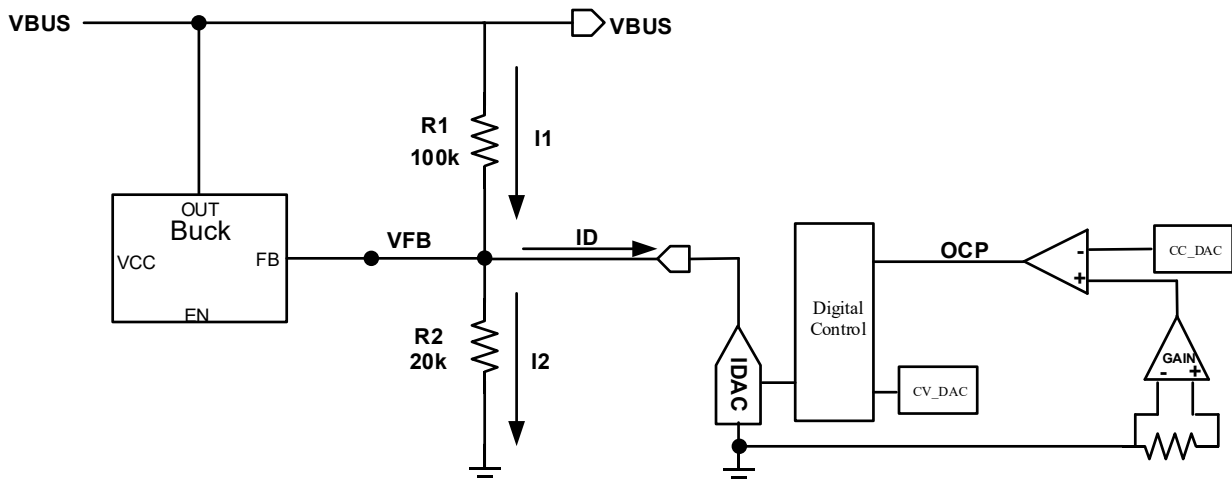

Figure 10. The constant current loop in AP53782
The AP53782 provides a constant current (CC) loop to provide the PD PPS function and other kinds of protocol which uses CC function. The CC loop, as shown in Figure 10 below, is implemented by sensing the low side IR drop on Rsense resistor and monitoring the internal OCP flag at the same time. If the output current is high enough to make the IR drop larger than the predetermined output current limit set by DAC, the OCP flag is enabled. Once the flag is high, the output voltage will be reduced to keep the output current at constant.